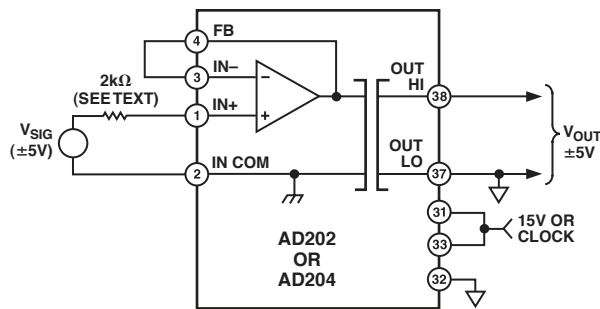
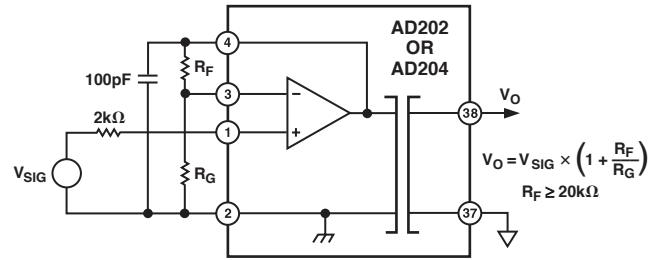

Figure 5. Basic Unity-Gain Application
Figure 6. Input Connections for Gain > 1
**Input Configurations.** The AD202 and AD204 have been designed to be very easy to use in a wide range of applications. The basic connection for standard unity gain applications, useful for signals up to  $\pm 5$  V, is shown in Figure 5; some of the possible variations are described below. When smaller signals must be handled, Figure 6 shows how to achieve gain while preserving a very high input resistance. The value of feedback resistor  $R_F$  should be kept above 20 k $\Omega$  for best results. Whenever a gain of more than five is taken, a 100 pF capacitor from FB to IN COM is required. At lower gains this capacitor is unnecessary, but it will not adversely affect performance if used.
The noninverting circuit of Figures 5 and 6 can also be used to your advantage when a signal inversion is needed: just interchange either the input leads or the output leads to get inversion. This approach retains the high input resistance of the noninverting circuit, and at unity gain no gain-setting resistors are needed.